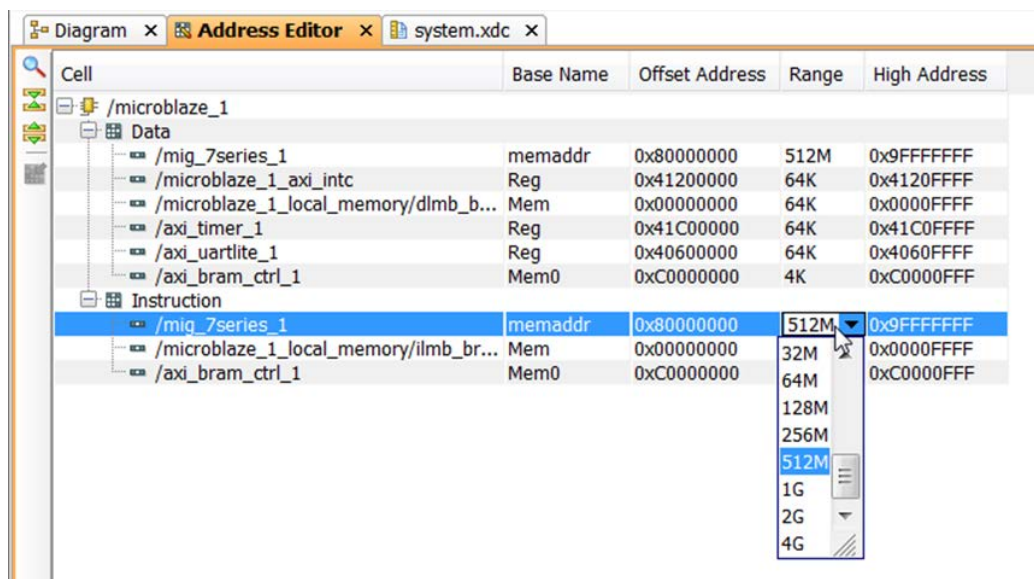

Figure 130: Data and Instruction Set to 512 MB
- c. Change the range of `mig_7_series` IP in both the **Data** and the **Instruction** section to **512 MB** (Figure 130).